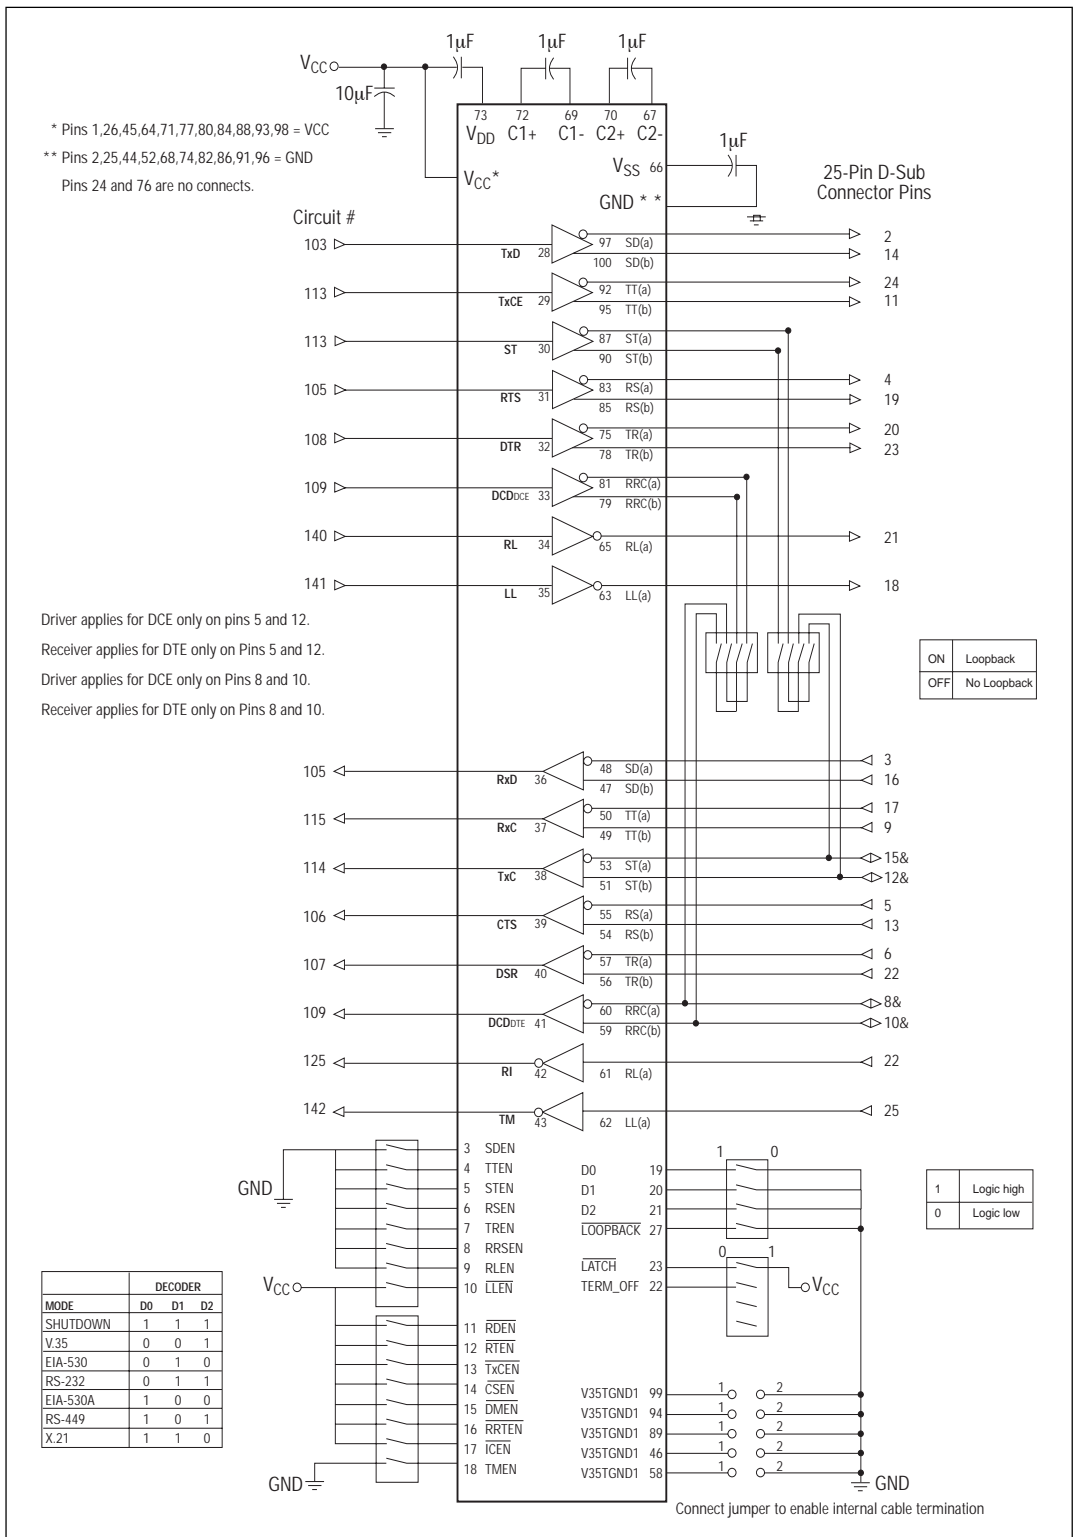

Figure 1
1. The SP508 Evaluation board takes advantage of the products PCB friendly flow through pinout in its design as shown in Figure 1.
3. Figure 1 is a block diagram of the evaluation board showing the layout of the SP508 Evaluation Board. The block diagram shows the location of the driver and receiver access points as well as the DIP switches, V_{CC} , GND and the DB-25 Connector.